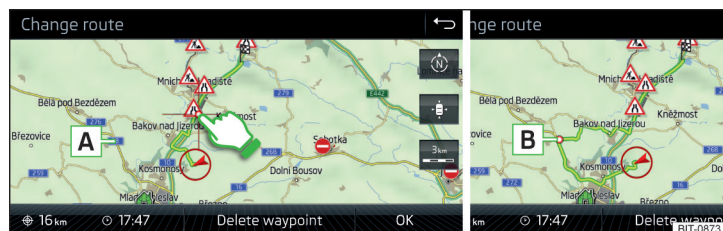

Fig. 232 Route change in the map / route transit point
- ▶ Touch the screen in the route field and move the cross-point to the desired location on the map, e.g. **A**, move » Fig. 232.
The transit point **B** is added to the route » Fig. 232.